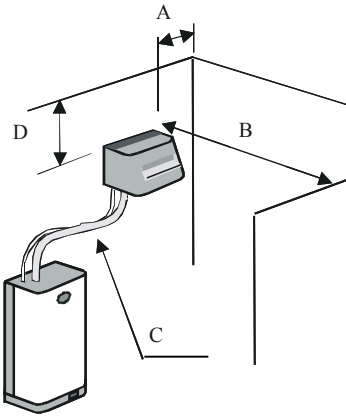

Fig. 4.1.1
- c) Figs. 4.1.1 and 4.1.2 indicate the minimum recommended distances to prevent the humidified air flow from coming into direct contact with people, electrical equipment, false ceilings and cold surfaces before the steam has been completely absorbed by the environment.